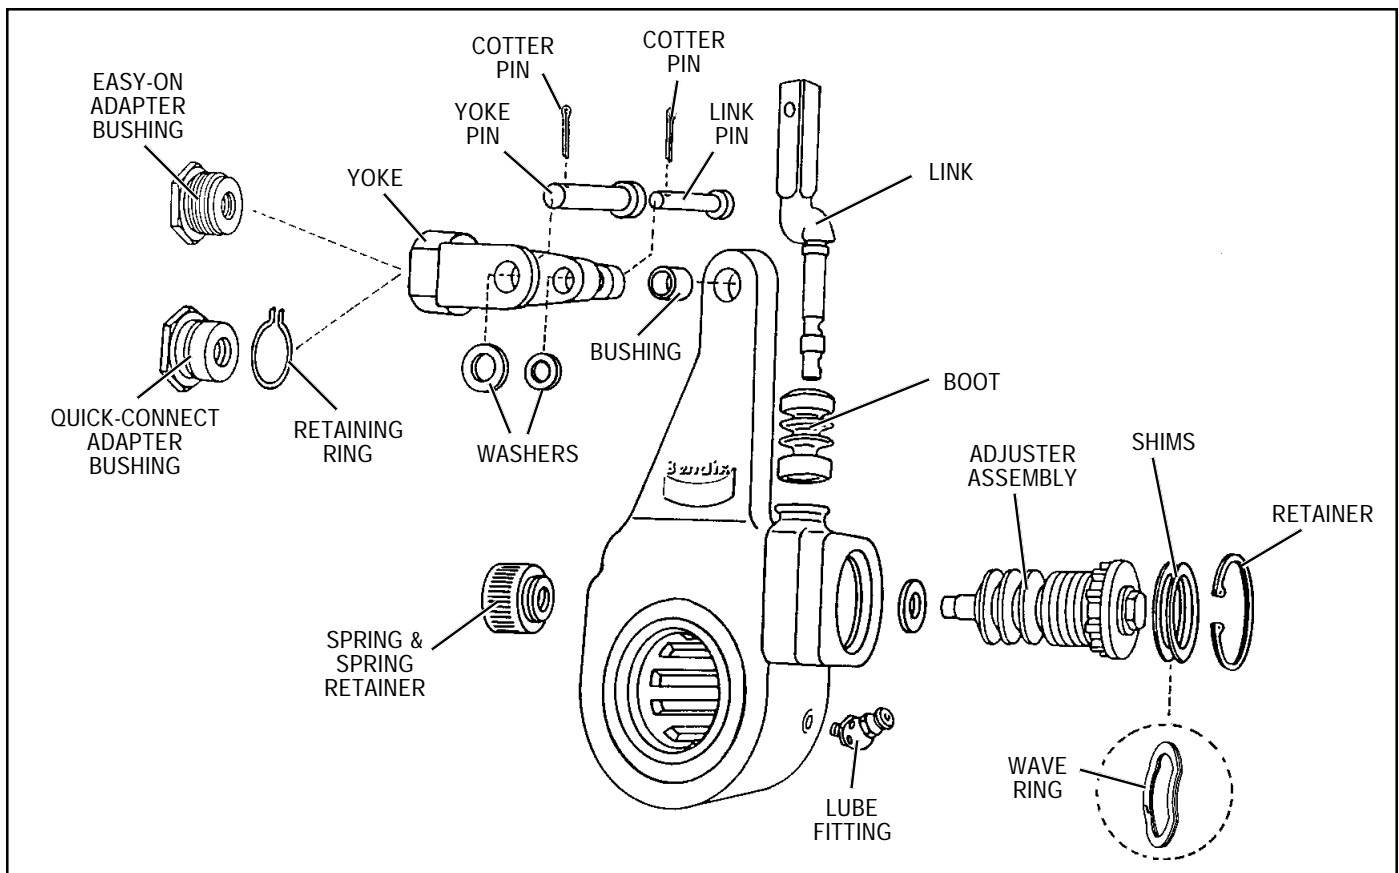

FIGURE 7 - ASA SERVICEABLE PARTS
6. Make certain the anti-reverse spring is fully installed in the spring retainer as illustrated in Figure 7. Using an arbor press, press the spring retainer and anti-reverse spring in the ASA-5 body. Support the manual adjustment hex head during installation of the spring retainer. Press the spring retainer in until it bottoms against the shaft. (See Figure 2.)
9. Depending on environmental conditions an application of anti-seize compound to both the yoke and link pins may facilitate later removal. Install the yoke and secure it to the ASA-5 body and link using the yoke pin and link pin. **Note:** Install the yoke and link pins from the direction as shown in Figure 7. Install washers and cotter pins in the yoke pin and link pin, and secure each. Bend each leg of the cotter pins to a minimum